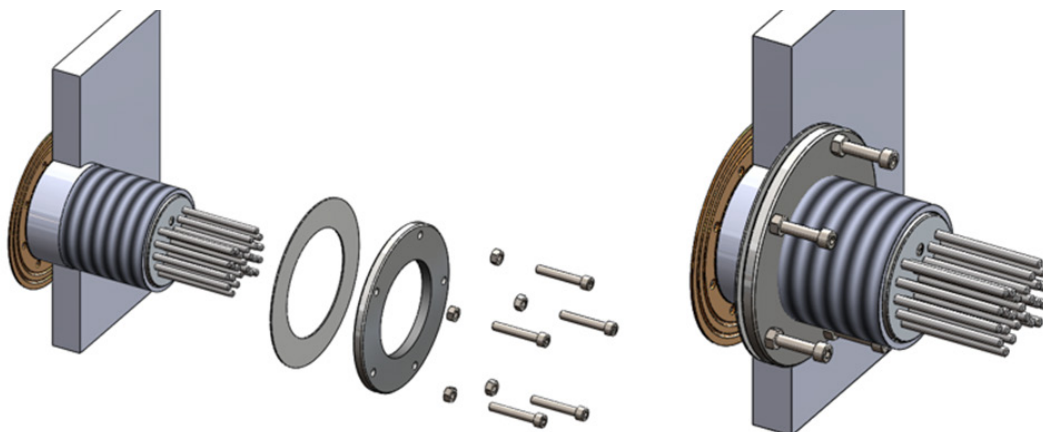

Fig.6.4
4. Tighten the locking bolts using the allen tool in a clockwise motion, adjust to only hand tight. Once you are satisfied that the unit is fully embedded into the hull, you will notice that sealant has squeezed out from around the perimeter of the light. Using a thinner or cleaner, apply to work rag and wipe off excess sealant to leave a clean seal. If you do not see sealant squeeze out from the body, you have not used enough sealant or tightened the unit enough to the hull. Carefully examine the installation to make sure the seal you have installed on the unit is fully water-tight. If in doubt, remove light, re-apply sealant and re-install. (Fig.6.4)
3. Thread the washer and locking ring onto the stem of the light body. The stainless steel compression washer does not need to be flat to the hull. An undulating surface can be taken up with the washer. The locking ring should also not sit flat against the washer. Depending on the angle of the hull inside the boat the locking bolts will be able to take up an uneven surface. DO NOT over-tighten locking bolts, you will fracture the light body and this will not be covered under warranty. (See Fig.6.4).